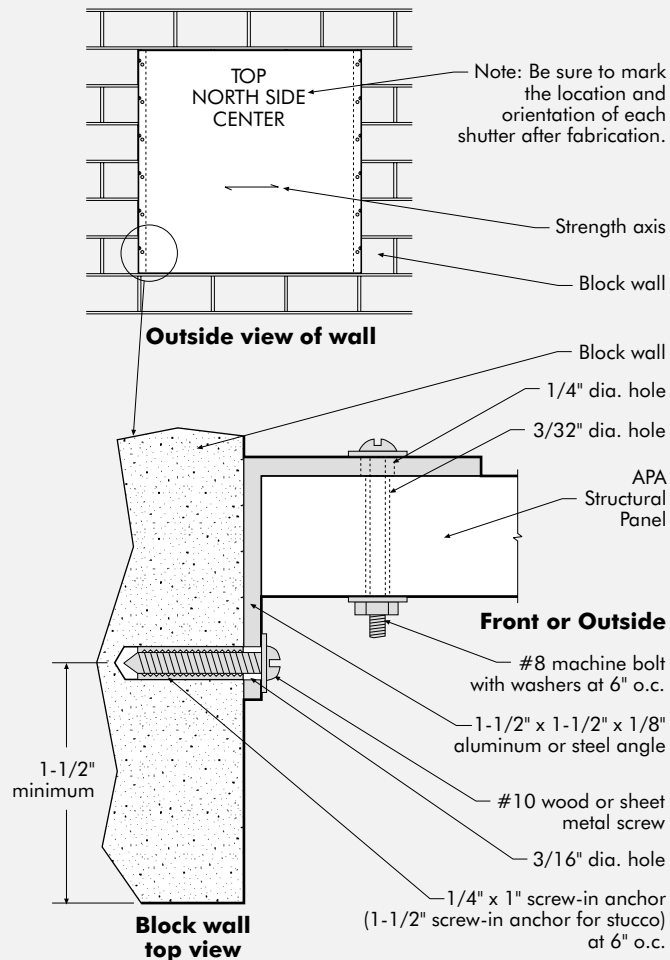

FIGURE 3
5. Drill 3/16-inch-diameter holes at 6 inches o.c., offset 1 inch from the panel bolt holes, in the remaining leg of the angle. Make the centerline of the holes 1/4 inch from edge of the angle. These holes are to receive #10 screws that will go through the holes into masonry anchors in the concrete blocks. (Figure 3)